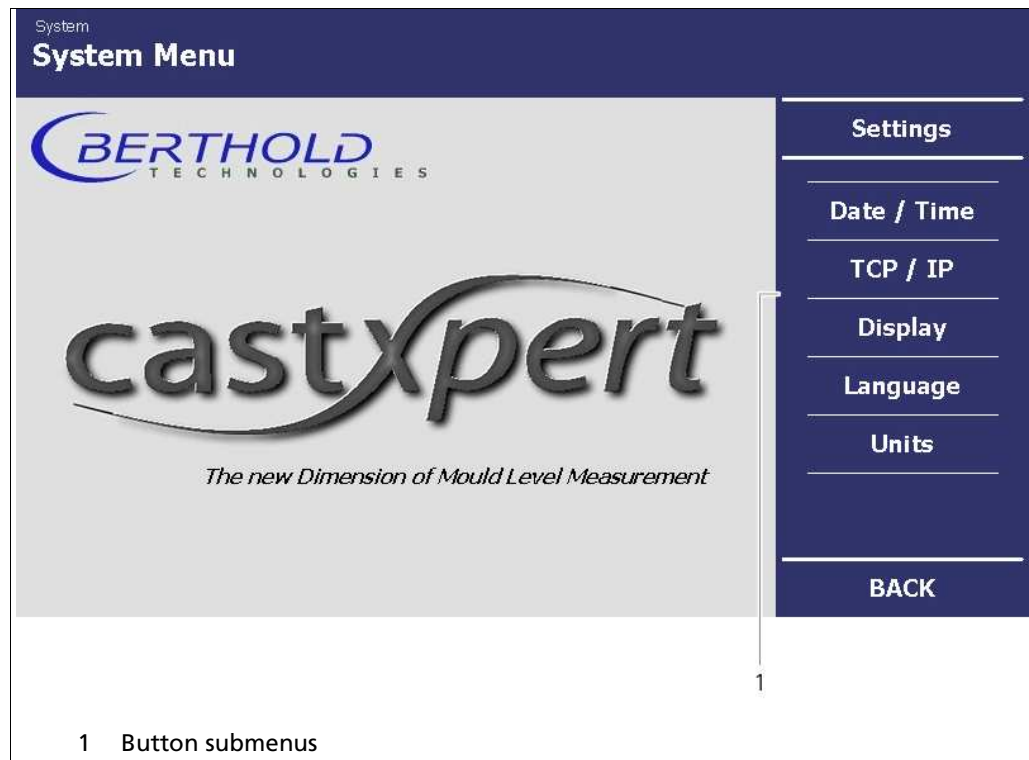

Fig. 23 System menu, Settings
⇒ The submenu **Settings** is opened (Fig. 23).
1. In the **System Menu | Settings**, click on **<Date/Time>**, to reach the Date/Time submenu (Fig. 23, Pos. 1).
1. In the **System Menu | Settings** click on **<Language>**, to change the menu language. (Fig. 23, Pos. 1).